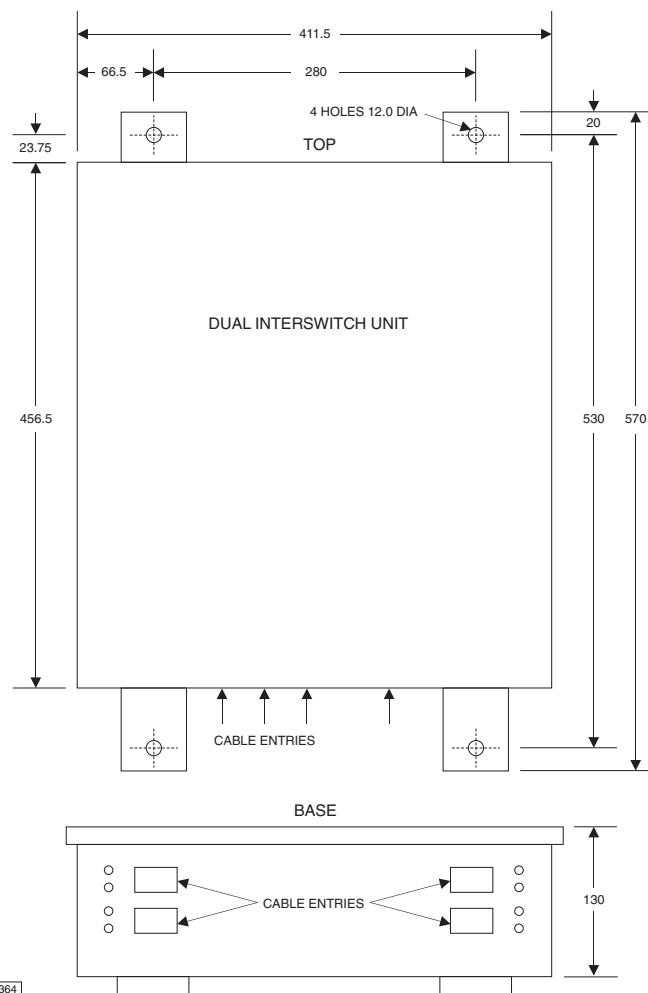

Figure 1b - Interswitch Unit (Dimensions & Mounting)
- 1 The Interswitch Unit is mounted as shown in Figure 1b, which provides the installation dimensions.